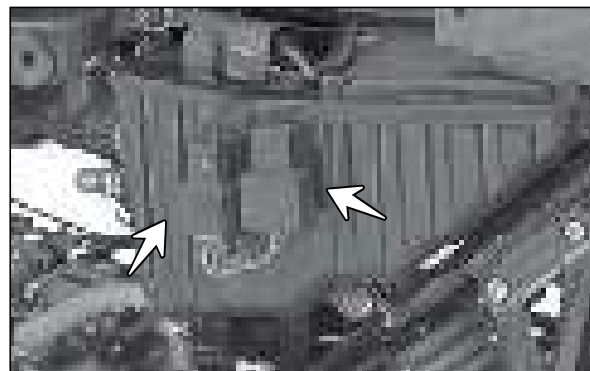

Fig. 5.61
- Main relay and relay fuel pump is fitted on case air cleaner and located below the cover frame L. (Fig. 5.61)